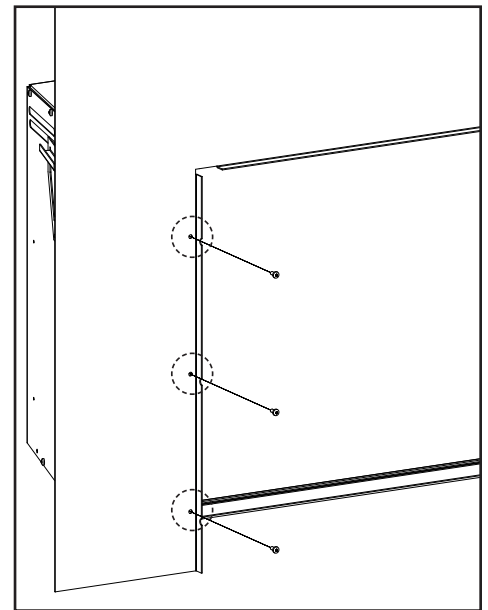

Figure 63: Screw Installation Locations.
1. Install the two Trimmable Panel brackets onto the unit using a T-20 Torx screwdriver. See Figures 59-62. for the screw installation locations. There are two sets of hole patterns on cabinet side depending on which Surround Panel is being installed. See Figures and 62. Then attach the panel to the brackets (Figure 63).